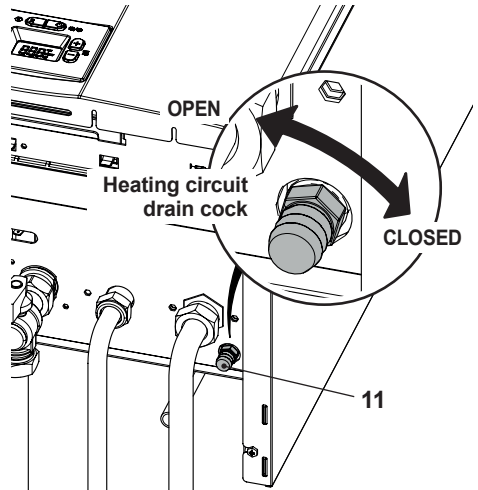

Figure 9.4
- Loosen the heating circuit drain cock 11 indicated in Figure 9.4.